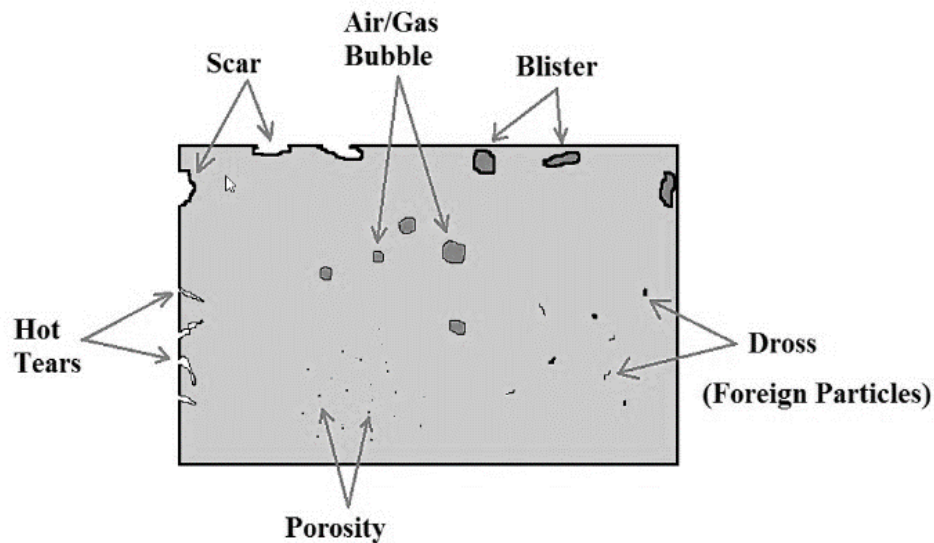

Figure 3 (b)
3. [a] Investment casting (Figure 3 (a)) is one of the oldest known metal-forming techniques and falls into the expendable mold casting category.
- [b] Different types of casting defects are shown in Figure 3 (b). To overcome those defects.